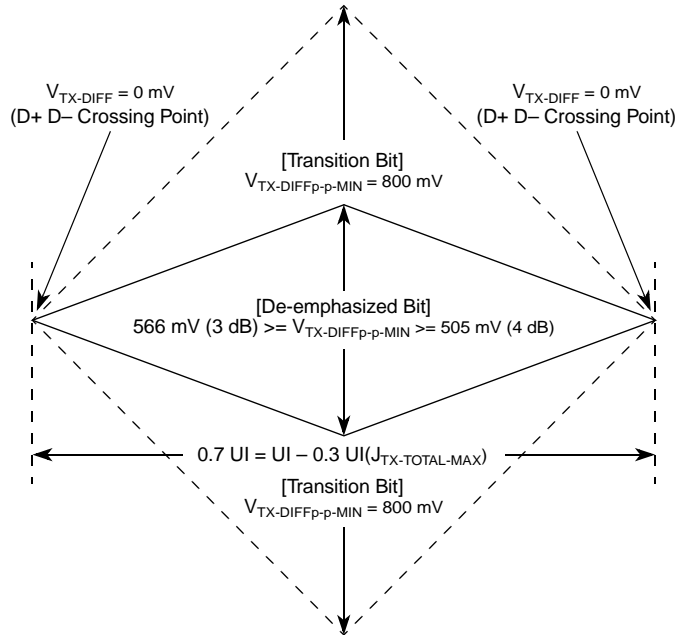
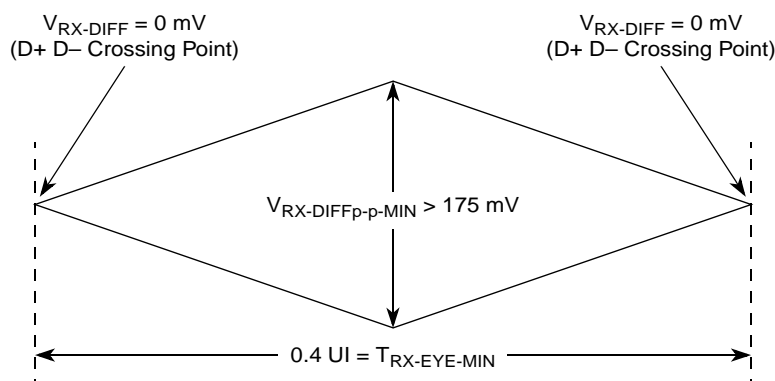
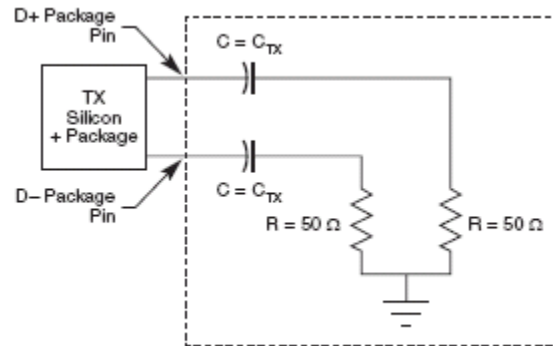

Figure 50. Minimum Transmitter Timing and Voltage Output Compliance Specifications
Figure 51. Minimum Receiver Eye Timing and Voltage Compliance Specification
Figure 52. Compliance Test/Measurement Load
2. Specified at the measurement point into a timing and voltage compliance test load as shown in Figure 52 and measured over any 250 consecutive TX UIs. (Also refer to the transmitter compliance eye diagram shown in Figure 50.)
4. The transmitter input impedance shall result in a differential return loss greater than or equal to 12 dB and a common mode return loss greater than or equal to 6 dB over a frequency range of 50 MHz to 1.25 GHz. This input impedance requirement applies to all valid input levels. The reference impedance for return loss measurements is 50  $\Omega$  to ground for both the D+ and D- line (that is, as measured by a vector network analyzer with 50- $\Omega$  probes, see Figure 52). Note that the series capacitors,  $C_{TX}$ , is optional for the return loss measurement.
5. Measured between 20%–80% at transmitter package pins into a test load as shown in Figure 52 for both  $V_{TX-D+}$  and  $V_{TX-D-}$ .
The TX eye diagram in Figure 50 is specified using the passive compliance/test measurement load (see Figure 52) in place of any real PCI Express interconnect + RX component. There are two eye diagrams that must be met for the transmitter. Both diagrams must be aligned in time using the jitter median to locate the center of the eye diagram. The different eye diagrams differ in voltage depending on whether it is a transition bit or a de-emphasized bit. The exact reduced voltage level of the de-emphasized bit is always relative to the transition bit.
- Specified at the measurement point and measured over any 250 consecutive UIs. The test load in Figure 52 should be used as the RX device when taking measurements (also refer to the receiver compliance eye diagram shown in Figure 51). If the clocks to the RX and TX are not derived from the same reference clock, the TX UI recovered from 3500 consecutive UI must be used as a reference for the eye diagram.
- The receiver input impedance shall result in a differential return loss greater than or equal to 15 dB with the D+ line biased to 300 mV and the D- line biased to -300 mV and a common mode return loss greater than or equal to 6 dB (no bias required) over a frequency range of 50 MHz to 1.25 GHz. This input impedance requirement applies to all valid input levels. The reference impedance for return loss measurements for is  $50 \Omega$  to ground for both the D+ and D- line (that is, as measured by a vector network analyzer with  $50\text{-}\Omega$  probes, see Figure 52). Note that the series capacitors,  $C_{TX}$ , is optional for the return loss measurement.
The RX eye diagram in Figure 51 is specified using the passive compliance/test measurement load (see Figure 52) in place of any real PCI Express RX component. In general, the minimum receiver eye diagram measured with the compliance/test measurement load (see Figure 52) is larger than the minimum receiver eye diagram measured over a range of systems at the input receiver of any real PCI Express component. The degraded eye diagram at the input Receiver is due to traces internal to the package as well as silicon parasitic characteristics which cause the real PCI Express component to vary in impedance from the compliance/test measurement load. The input receiver eye diagram is implementation specific and is not specified. RX component designer should provide additional margin to adequately compensate for the degraded minimum Receiver eye diagram (shown in Figure 51) expected at the input receiver based on an adequate combination of system simulations and the return loss measured looking into the RX package and silicon. The RX eye diagram must be aligned in time using the jitter median to locate the center of the eye diagram.
The reference impedance for return loss measurements is  $50\ \Omega$  to ground for both the D+ and D- line (that is, as measured by a Vector Network Analyzer with  $50\ \Omega$  probes—see Figure 52). Note that the series capacitors,  $C_{PEACCTX}$ , are optional for the return loss measurement.
The AC timing and voltage parameters must be verified at the measurement point, as specified within 0.2 inches of the package pins, into a test/measurement load shown in Figure 52.